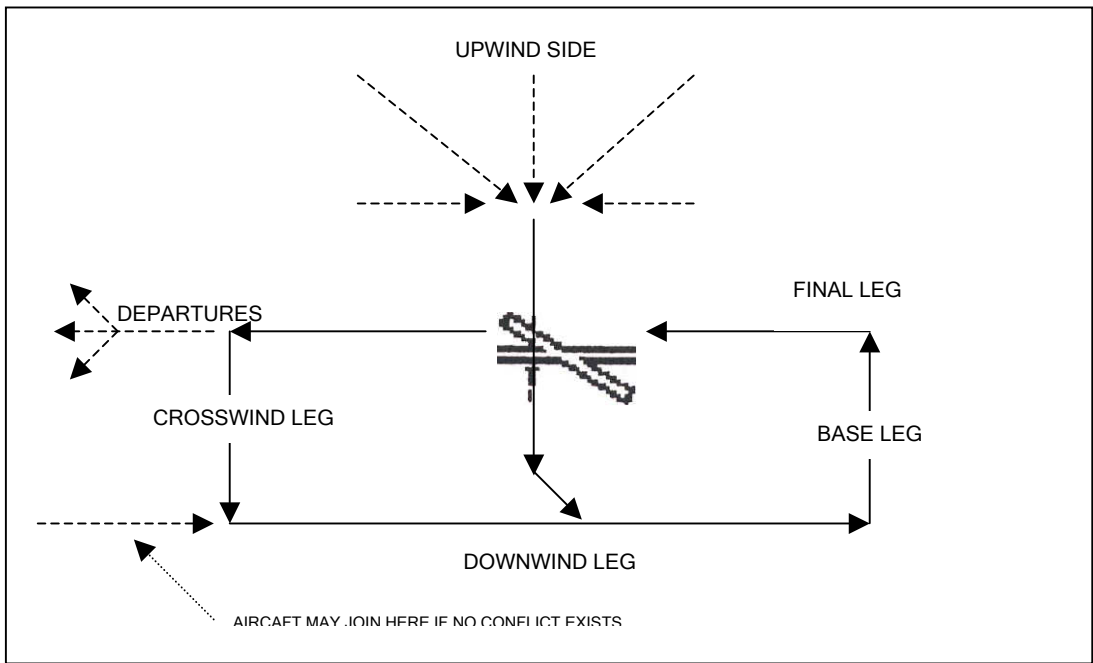

Figure 4-1 Circuit joining procedure
2. The primary method of joining the circuit is via one of the established legs of the traffic pattern (see Figure 4-1). Entry to the traffic pattern shall be made in such a manner as to avoid "cutting off" other aircraft, conforming as closely as possible to the altitude (normally 1000 ft AAE), speed and size of the pattern being made by other traffic.
of landing or taking off. Should it be necessary for aircraft to approach to, land, or take off on a runway other than the active runway, it is expected that the appropriate communication between pilots and/or the ground station will take place to ensure there is no conflict of traffic. Circuits are normally flown at 1,000 feet AAE. If a right-hand circuit is required in accordance with CAR 602.96, the opposite of Figure 4-1 is applicable.
Aerodromes not within an MF area: Where no MF procedures are in effect, aircraft should approach the traffic pattern from the upwind side, or, once having ascertained without any doubt that there will be no conflict with other traffic entering the circuit or traffic established within the circuit, the aircraft may join the circuit on the downwind leg (Figure 4-1).
Aerodromes within an MF area: Where MF procedures are in effect and airport and traffic advisory information is available, aircraft may join the circuit pattern straight in or at 45 degrees to the downwind leg, or straight in to the base or final approach legs (Figure 4-1).